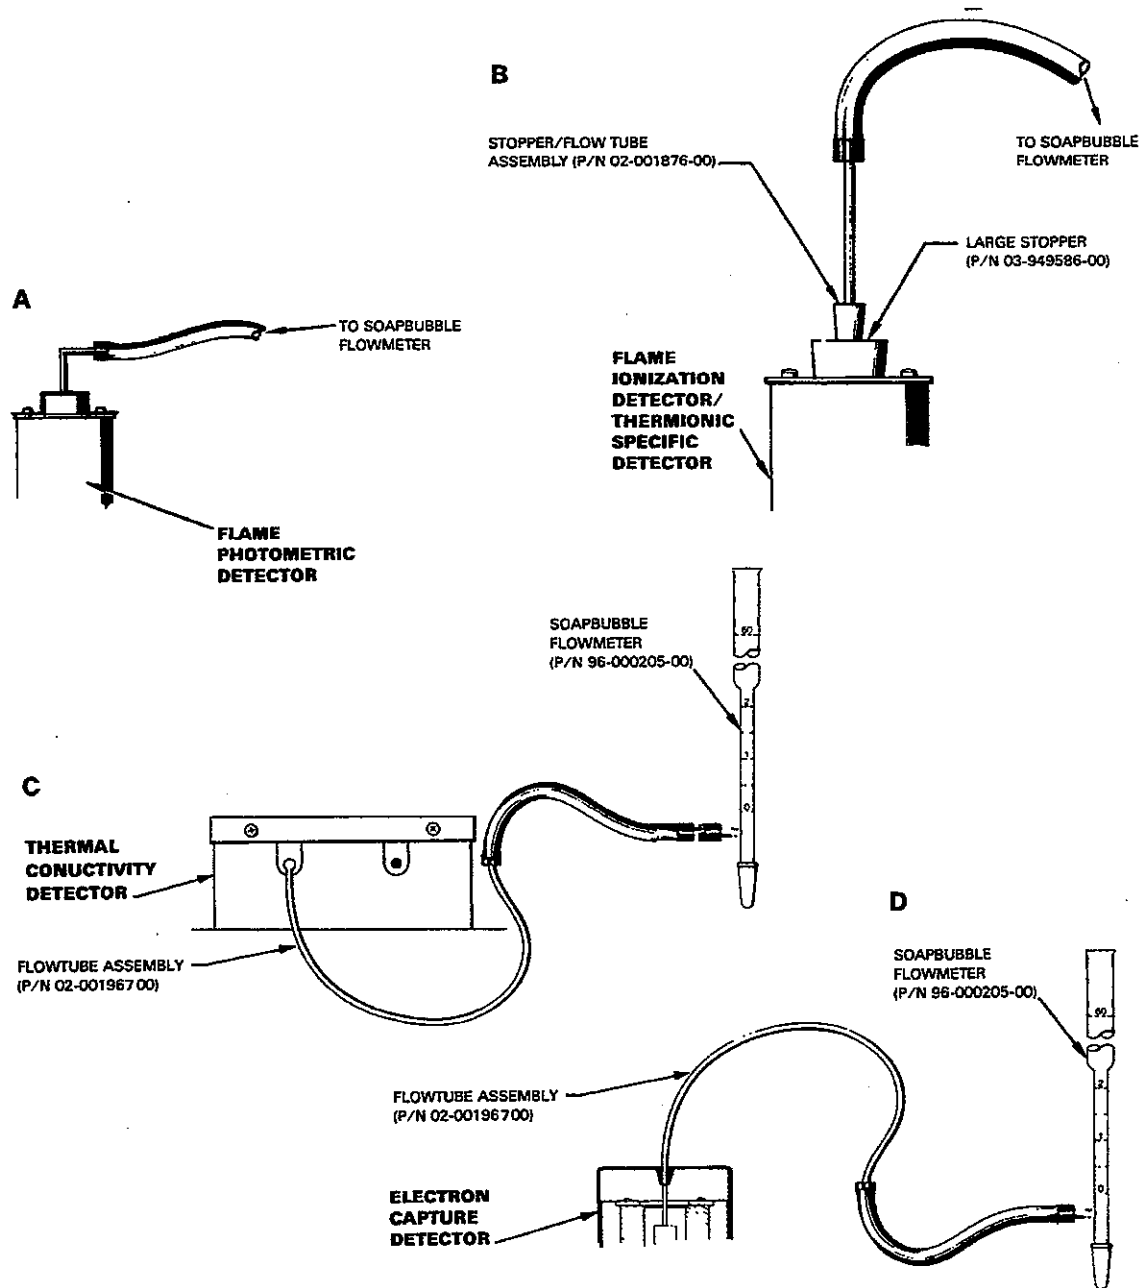

Figure 14 Flowmeter Configurations for Flow Rate Measurement
6. Connect a soap bubble flowmeter (P/N 96-000205-00, 0-60 cc) to the detector (see Figure 14). For the TSD, refer to the instructions in the *Thermionic Specific Detector* section in the *Options/Accessories Manual* to measure the 4.0 mL/min H₂ flow.